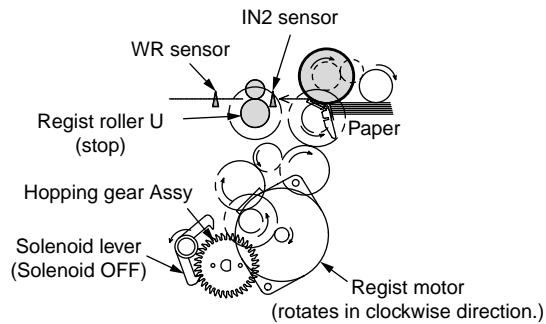

Fig. 2-3
1. When the regist motor rotates (in clockwise direction) while the solenoid is deactivated to the OFF state as shown in Fig. 2-3, the paper is transported until the IN2 sensor is turned ON. (When the regist motor rotates in clockwise direction, the MPT feed paper roller is activated)